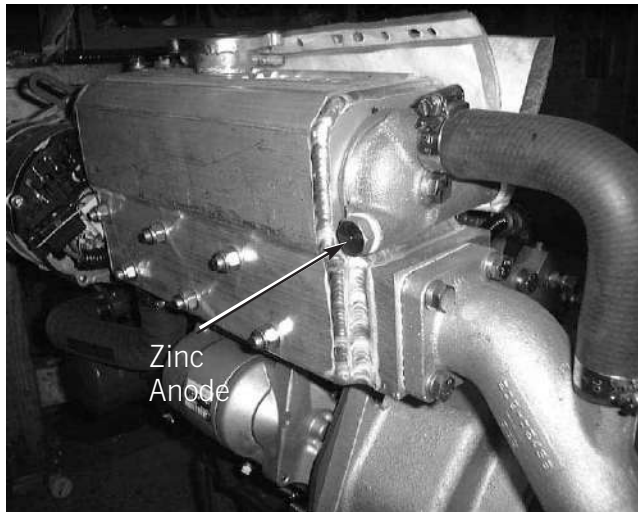
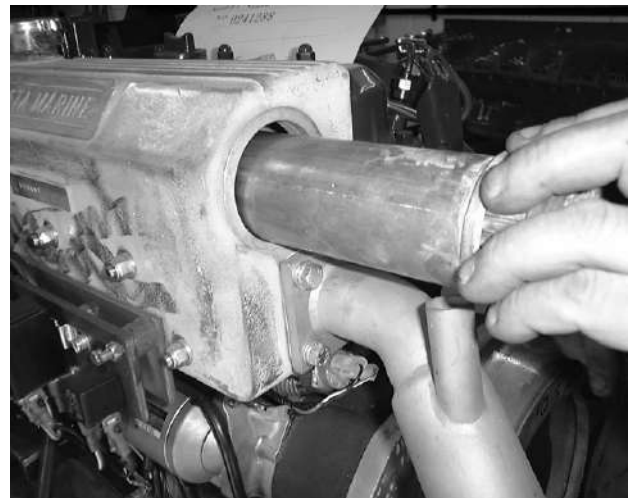

Fig. 2j
Fig. 2k
- (1) The wasting zinc anode should be checked every six months and replaced every year or as necessary. The anode is attached to the bolt inserted in the aft end cap of the heat exchanger. See fig. 2j.
- (2) Unscrew the bolt and replace the complete unit with a new one.
- (3) Check for leaks.
- (4) It is possible for fine sea weed and other debris to get past the inlet filter and into the tube stack. This should be removed and cleaned. See fig. 2k.
- (5) Drain off coolant into a bucket.
- (6) Unscrew the 2 end cap retaining bolts (one each end of the tube stack). Remove the 'O' rings and pull out tube stack. Clean tube stack and end caps.
- (7) Re-assemble using new 'O' rings. Do not overtighten end cap bolts and **make sure the tube stack is the right way round.**
- (8) Re-fill engine with water/anti-freeze solution and run engine up to temperature to check for leaks.